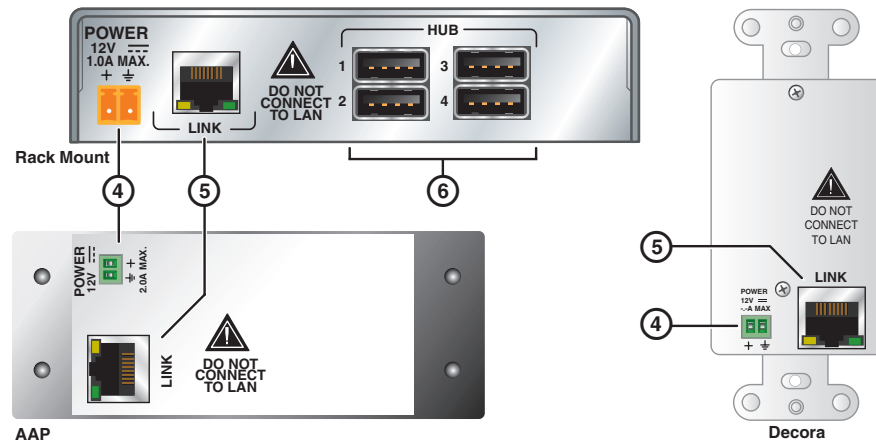

Figure 4. Receiver (Rx) Rear Panel Connectors
- ③ **Link (twisted pair) connector** — Connect the TP cable from the receiver Link connector (see figure 4, ⑤) to this RJ-45 female connector.
The Rx (receiver) rear panel (see figure 4) has a DC power input, twisted pair link connection, and also has four female USB Type A hub connectors. AAP and Decora receivers have the hub connectors on the front panel.